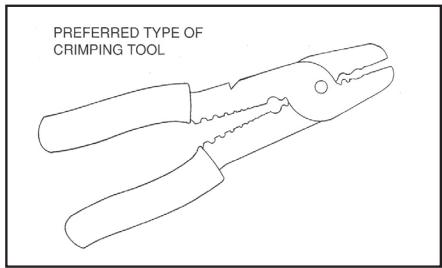

Fig. 5
- Electrical stripping and crimping tool (See Fig. 5)
- E) Install the new terminals onto the wiring if the originals were clipped off. The large terminal is the positive terminal, while the small one is the negative terminal. Verify that you are installing them properly because if they are reversed the pump will run backwards and will not pump. Strip the wire insulation back 1/4" and install the terminals. Using the illustrated preferred type of crimp tool (See Fig. 5), crimp the terminals in place. Verify that the terminals are securely attached and will not come off.